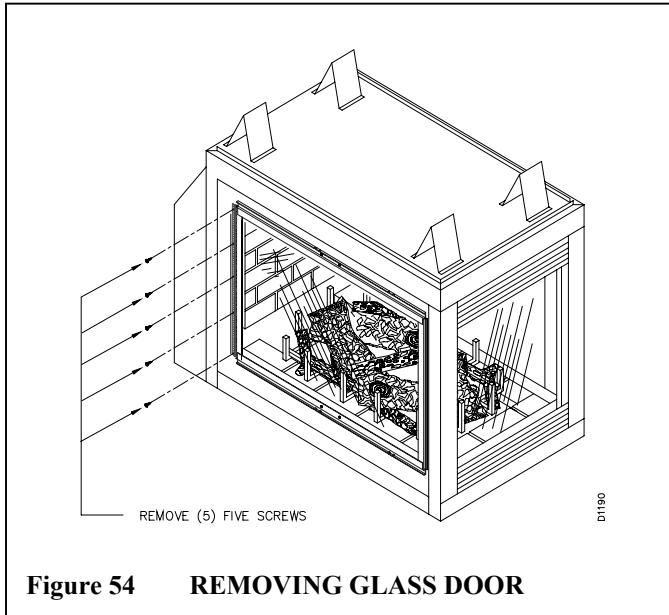

Figure 54 REMOVING GLASS DOOR
2. If replacement of the glass is necessary, the entire assembly (frame and glass) must be replaced. If glass is broken you may want to wear gloves and tape the remaining fragments onto the frame. Remove the five (5) screws located on the end of the firebox while holding frame assembly to prevent it from falling and causing injury. Remount the new frame at the hinge with five (5) new screws, before closing and latching the door. This will ensure seating of the gasket. If replacing the end glass panel, you must remove the (16) sixteen screws around the frame (see figure 54). To insure proper fit, when installing the new glass panels, make certain that the seam in the gasket is placed in the down position.